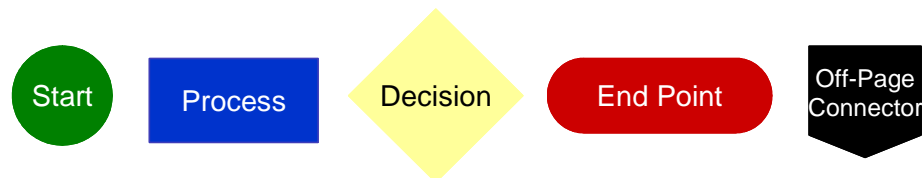

FIGURE 1: FLOWCHARTING SYMBOLS
- Use of standard, basic flowcharting **symbols**, as shown in FIGURE 1 below. Consistent symbols make it easier to communicate with and comprehend diagrams.